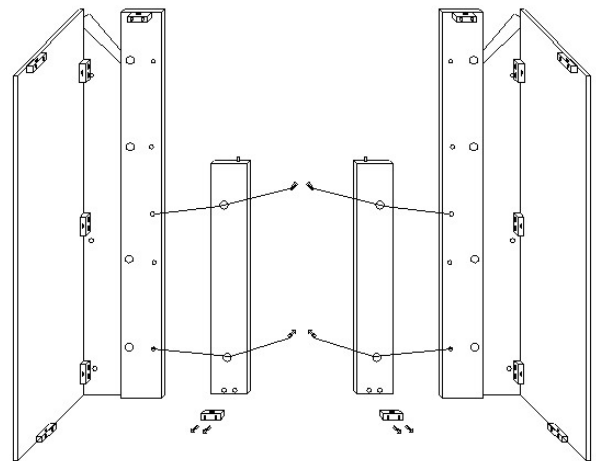

Fig. 4
Step 4: Attach 2 plastic connectors [R] to Left and Right Small Panels [H and J] with 4 KD screws (2 screws for each connector). Attach Left Small Panel [H] to Panels D, E and G with 2 KD screws. Attach Right Small Panel [J] to Panels D, F and G with 2 KD screws. See Fig. 4